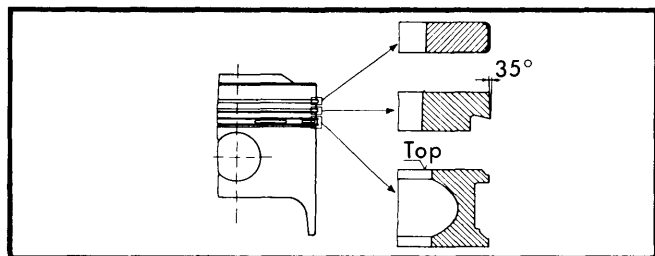

Fig. 10 Install Piston Rings as Shown
5) Fit the rings to the piston using pliers (88012202), making sure all "Top" markings are facing upwards and gaps are staggered 120° from each other. See Fig. 10.